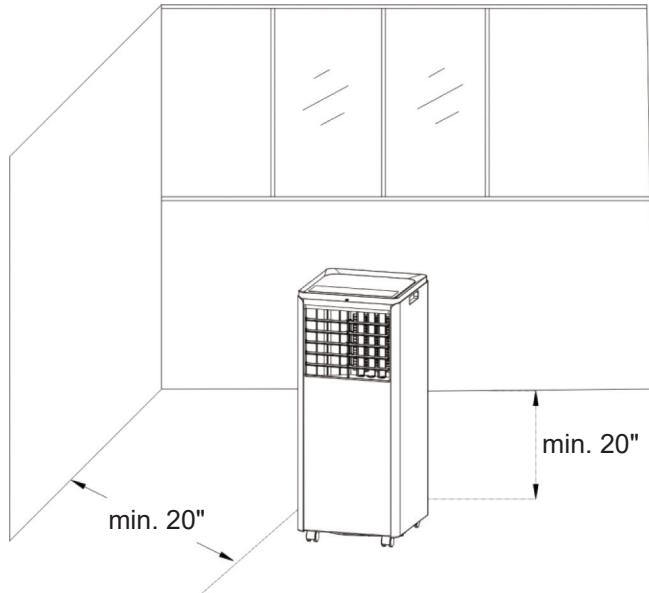

Figure 4
- 1) Move the machine with installed heat pipe and fittings before the window, and the distance between the body and walls or other objects shall be least 20" (as shown in Fig.4).